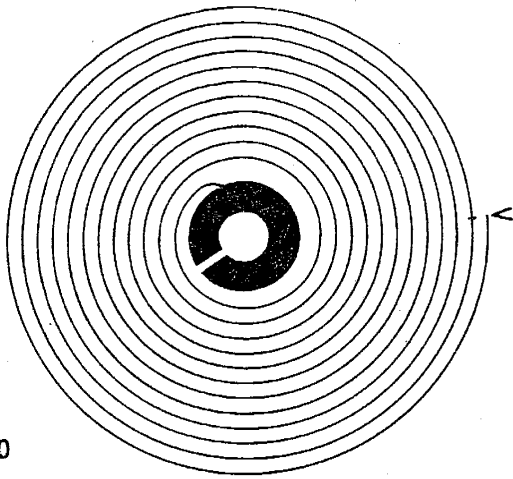

Fig. 20-10
8. Vibrate to the number of vibrations calculated in step 1 and break off hairspring exactly one coil larger, figure 20-10.